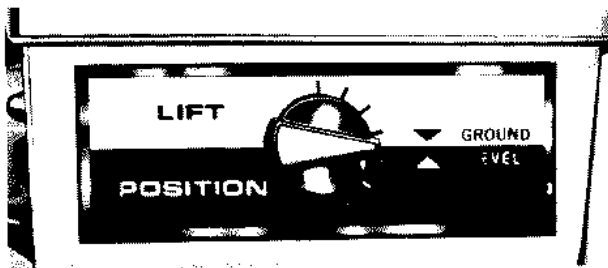

Figure 9
9. Depth Indicator Gauge. Allows operator to precisely locate original height or depth of attached implement. (See Figure 9.)
Located on the instrument panel is a depth indicator gauge which is used in conjunction with the lift lever. Lower the attached implement to its desired height or depth, and manually turn the indicator gauge to the ground level position indicated in Figure 9. Thus this gauge allows the operator to raise the attachment for maneuvering and assures him of returning attachment to the same height or level he was operating it at. By visually observing the depth indicator when lowering an attachment, the lift lever can be released when indicator reaches the original desired or ground level setting. **NOTE:** Study each attachment owner manual for additional information on DEPTH GAUGE INDICATOR.